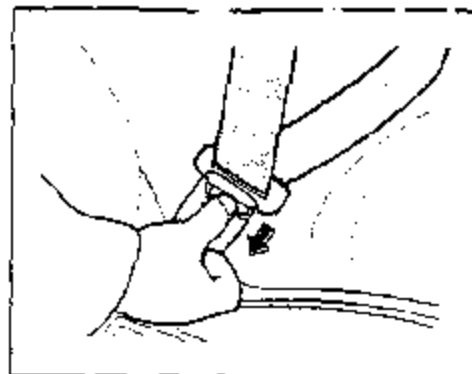

Fig. 4
- d. Press the buckle release button to release the metal tongue plate from the buckle. Verify that the metal tongue plate is ejected from the belt buckle assembly without any interference or abnormal noise. (See Fig. 4)